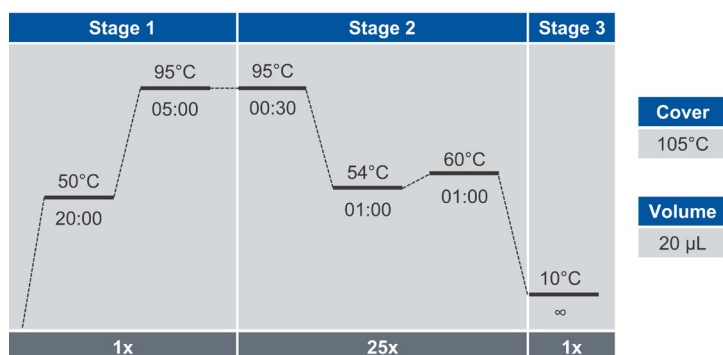

Figure 49. Olink PCR1 program
1. Start the PCR program *Olink PCR1* on the ProFlex™ PCR instrument (Figure 49). Pause when the PCR block temperature reaches 50 °C.